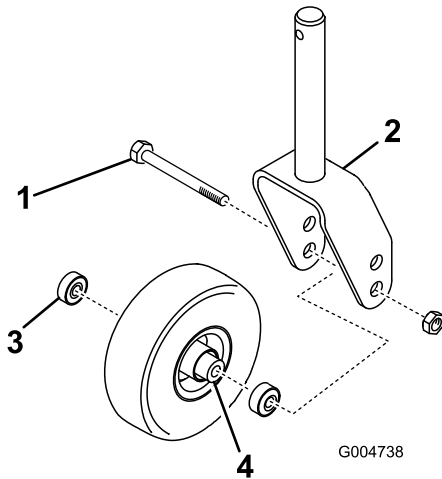

Figure 136
1. Remove the locknut from the bolt holding the caster-wheel assembly between the caster fork or the caster-pivot arm (Figure 136).
2. Grasp the caster wheel and slide the bolt out of the fork or pivot arm (Figure 136).
3. Remove the bearing from the wheel hub and allow the bearing spacer to fall out (Figure 136).
4. Remove the bearing from the opposite side of the wheel hub (Figure 136).